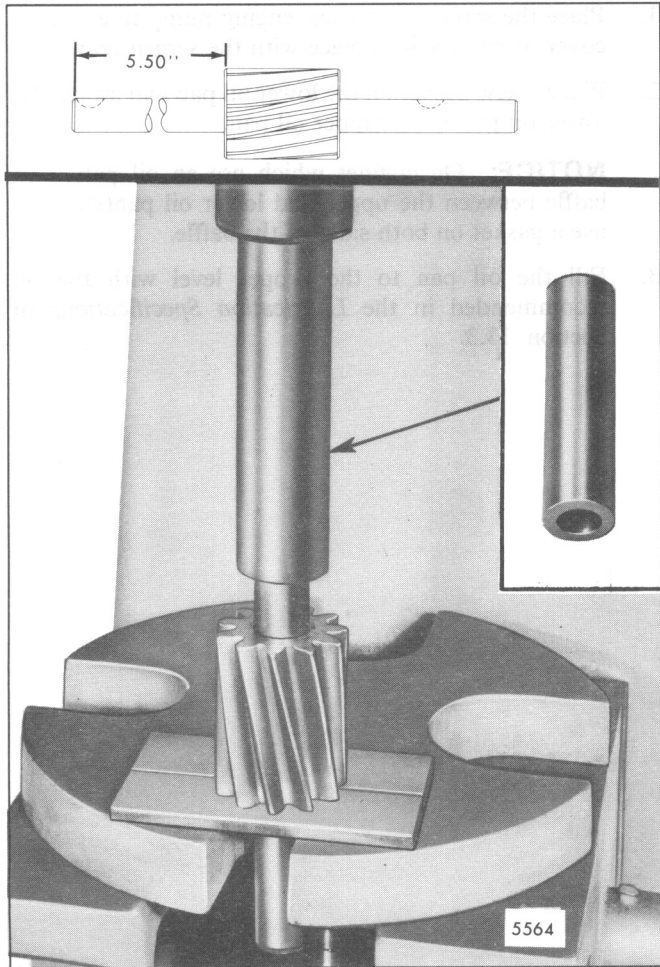

Fig. 15 – Installing Oil Pump Gear on Shaft using Tool J 9380
2. Lubricate the drive shaft, then press the oil pump drive gear on the shaft with tool J 9380 (Fig. 15). Tool J 9380 will position the gear 5.50" from the end of the shaft as well as prevent the shaft from bending during gear installation.